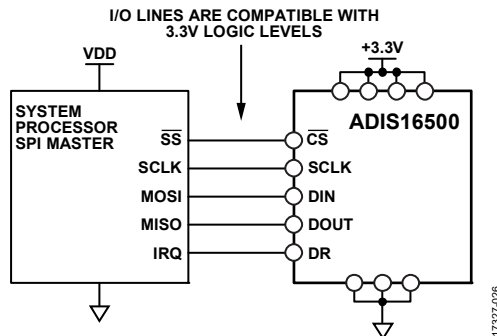

Figure 27. Electrical Connection Diagram
The SPI provides access to the user registers (see Table 9). Figure 27 shows the most common connections between the ADIS16500 and a SPI master device, which is often an embedded processor that has a SPI-compatible interface. In this example, the SPI master uses an interrupt service routine to collect data every time the data ready (DR) signal pulses.